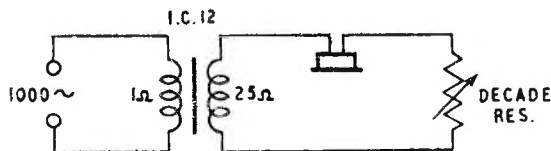

FIG. 2.
STEP 4. Connect the circuit as shown in Fig. 2. Use the same value of resistance in the decade box as obtained in STEP 3.